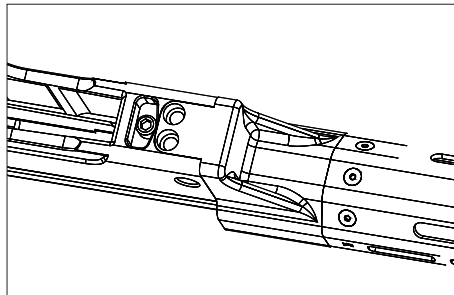

Figure 49 - Center Chassis Section Hand Guard Screw Holes Aligned
5. The AR-08 hand guard should carefully be pushed into the bayonet type lug mount that is fitted to the Center Chassis Section. (Fig 49)